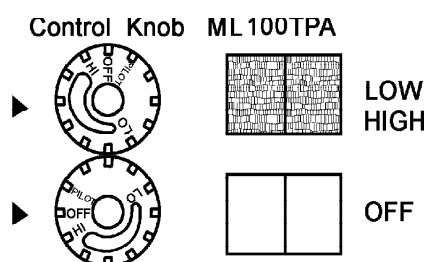

Figure 22 - Burner Patterns
8. Turn control knob counter clockwise ↺ to desired seating level. The main burner should light. Set control knob to any heat level between HI and LO. (see Figure 22)